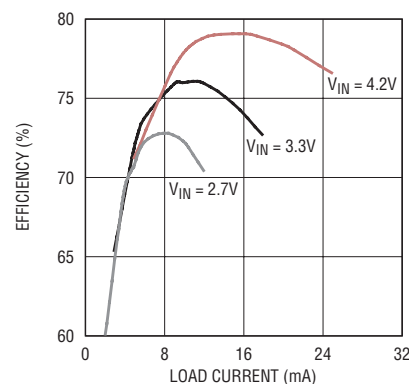
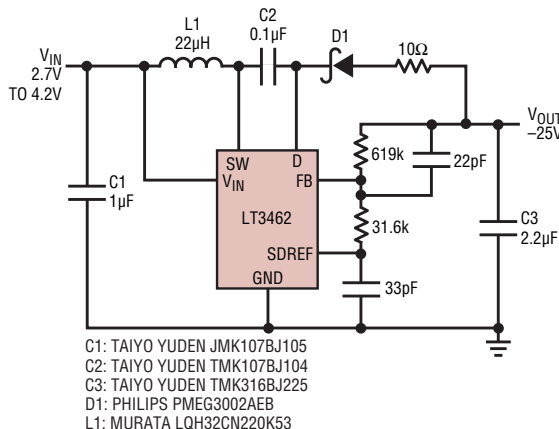
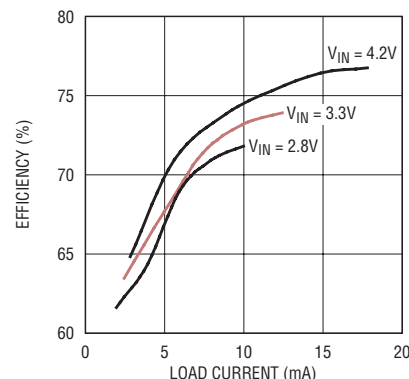

Figure 8. Efficiency of the circuit in Figure 7 at 25V output
Figure 9. High conversion ratio, 3.3V to 25V inverting converter occupies as little as 55mm².
Figure 10. Efficiency of the circuit in Figure 9 at -25V output
1. This subject is treated in some detail in the LTC1647 data sheet, Figures 9, 10, and 11 inclusive.
18mA at 25V from a 3.3V supply and occupies as little as 50mm² of board space. Figure 8 shows that the efficiency of the 25V converter is quite good, peaking at 79% for a 4.2V supply. Figure 9 shows a 3.3V to -25V, 14mA inverter with efficiency above 70% (Figure 10).